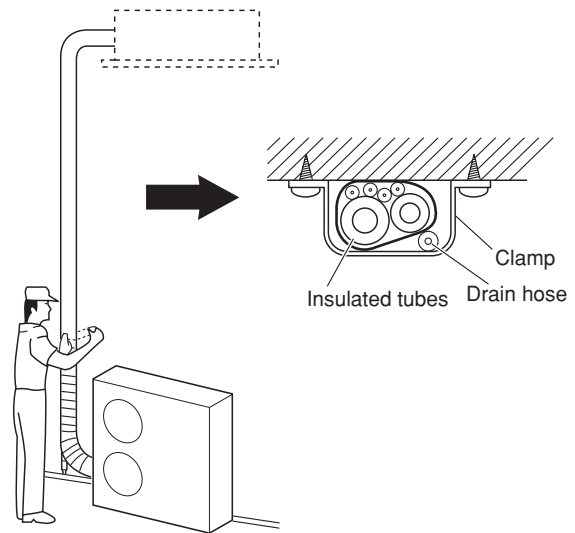

Fig. 5-10
- (1) At this time, the refrigerant tubes (and electrical wiring if local codes permit) should be taped together with armoring tape in 1 bundle. To prevent the condensation from overflowing the drain pan, keep the drain hose separate from the refrigerant tubing.
- (2) Wrap the armoring tape from the bottom of the outdoor unit to the top of the tubing where it enters the wall. As you wrap the tubing, overlap half of each previous tape turn.
- (3) Clamp the tubing bundle to the wall, using 1 clamp approx. each meter. (Fig. 5-10)